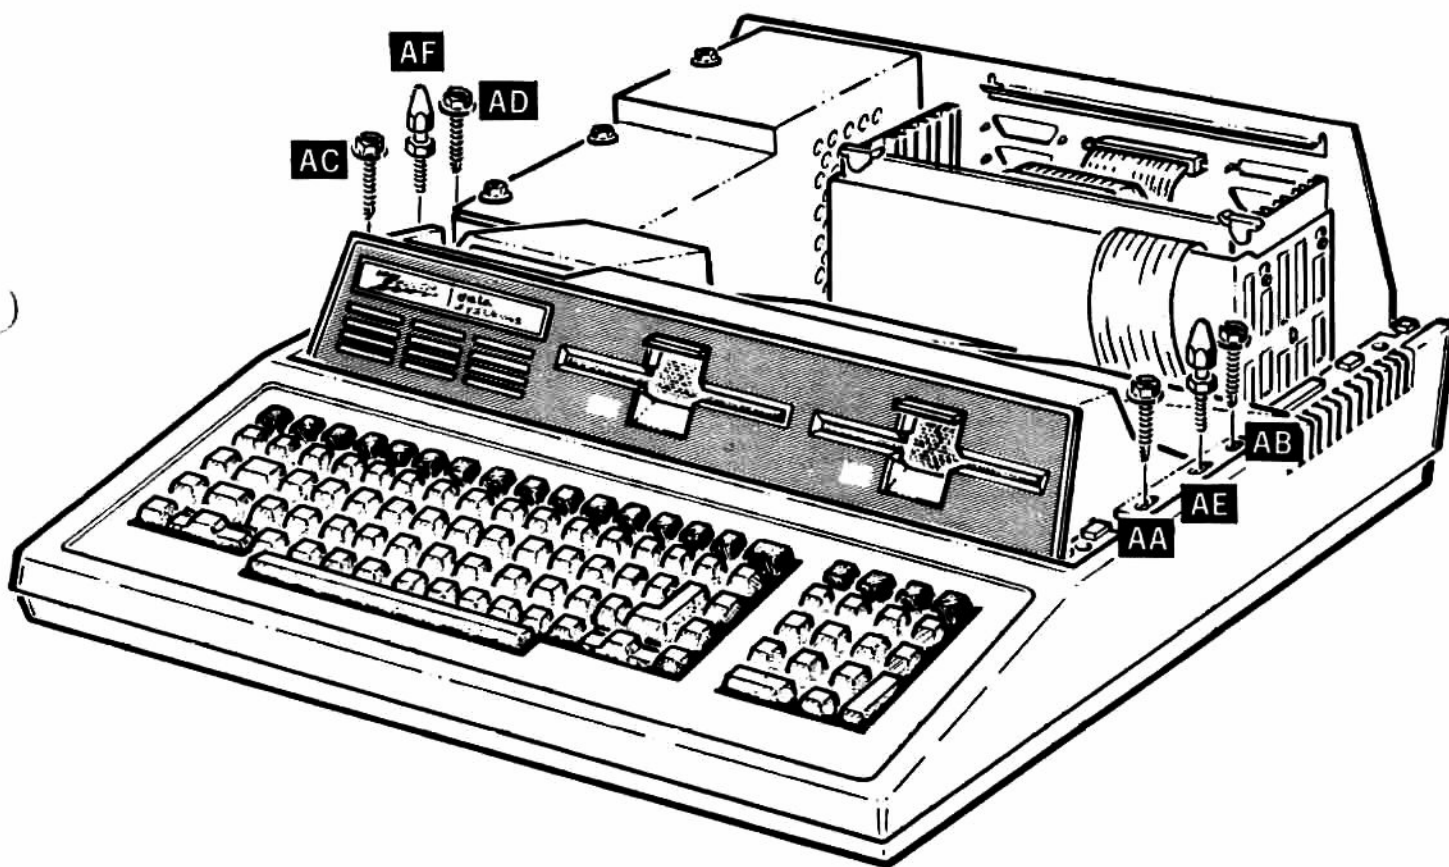

Figure 2.5. Drive Subassembly Removal
- Refer to Figure 2.5. Remove and retain the four screws at positions AA, AB, AC, and AD.